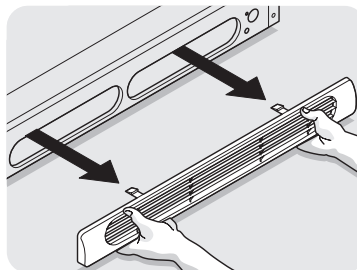

Figure A2
2. Remove toe grille by pulling it straight out. (See Figure A2)